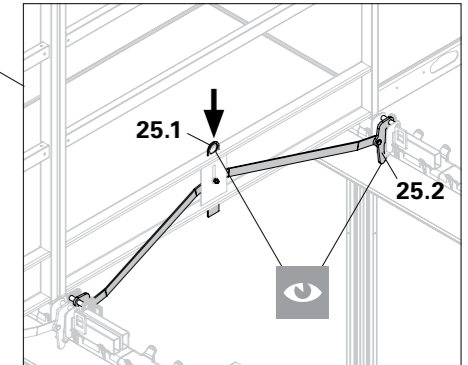
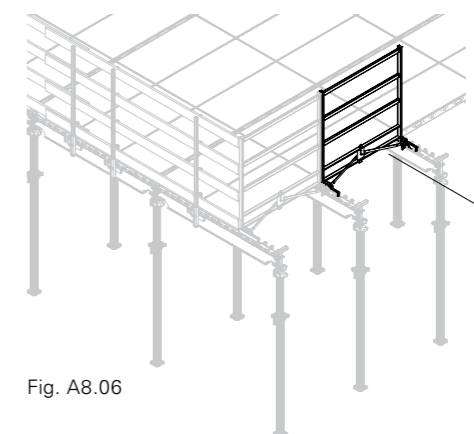

Fig. A8.05
Fig. A8.06
3. Place Handrail Unit SD with the hooks (25.2) between the two teeth (2.2) which are free on the main beam. → The lug falls downwards. Hooks engage and are secured. If the lug is not completely down, then press lug (25.1) downwards by stepping on it. (Fig. A8.05) The Handrail Unit is installed. (Fig. A8.06)
- Do the hooks enclose the teeth of the main beam? (Fig. A8.05)